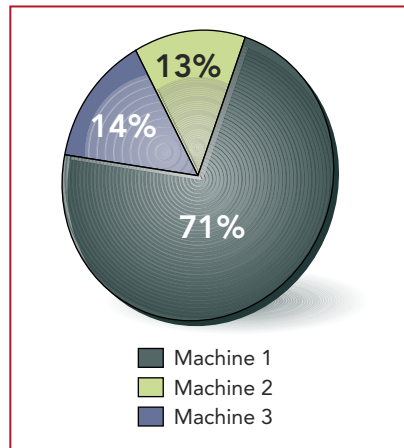

FIGURE 2. By relating defects to a specific machine, line managers can make corrections and increase yield quickly.
- **Machine-level analysis.** Even a simple analysis of AOI data can reveal “macro” defect patterns. During a case study, a production-line manager inspected 1 million PCBs assembled by three separate parts-placement machines. After analyzing assembly defects—based on attribute data—over several months, the manager found one placement machine caused 71% of the defects (**Figure 2**). When the production staff adjusted the machine to reduce the defects, the first-pass yield increased. In this case, the AOI system tracked specific defect types and their sources.